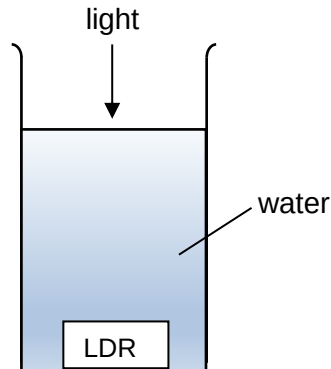

Fig. 4.1
- 4 Fig. 4.1 shows a light-dependent resistor (LDR) submerged under water. A source of light shines towards the LDR through the water.